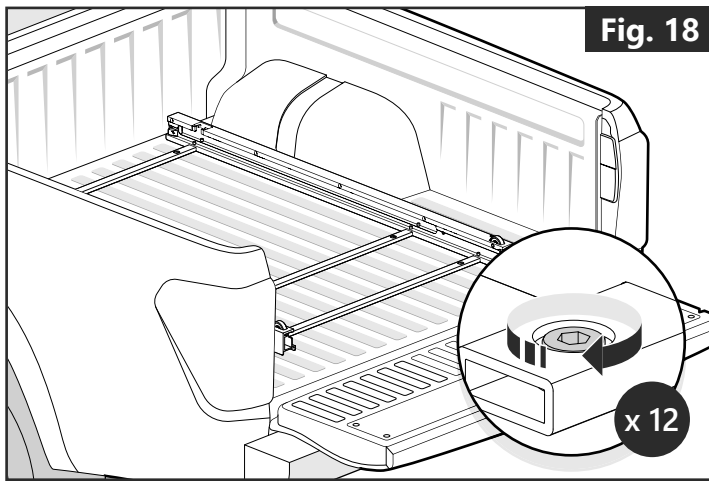

Fig. 18
- To perform proper maintenance on the Mountain Top Slide, it is necessary to detach the deck from the base frame. Refer to section (4) for proper detachment of the deck.
- If necessary, re-tighten all bolts connecting the base frame to the bed of the truck to 21 Nm. **(Fig. 18)**